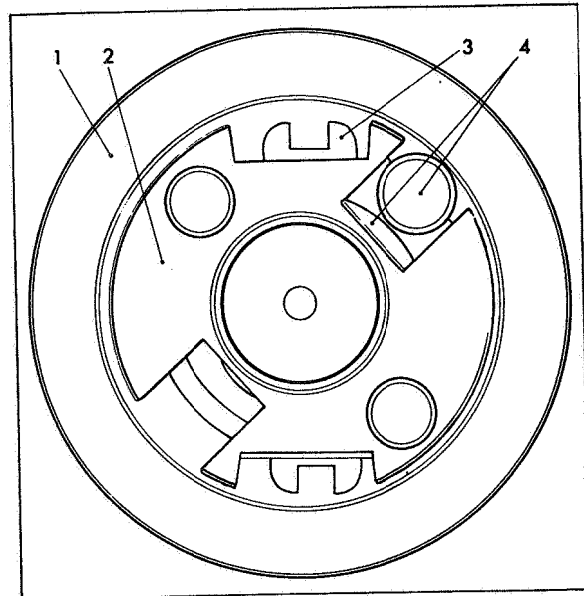

Fig 52 Roller & shoe assemblies
Position hydraulic head (1) on bench with machined surfaces uppermost as viewed from top in Fig 52. Position bottom adjusting plate (3) on hydraulic head with its chamfered edges uppermost. Insert distributor rotor (2) and line up the guide slots on the bottom adjusting plate with the tapered end cut-outs on the rotor head as illustrated.